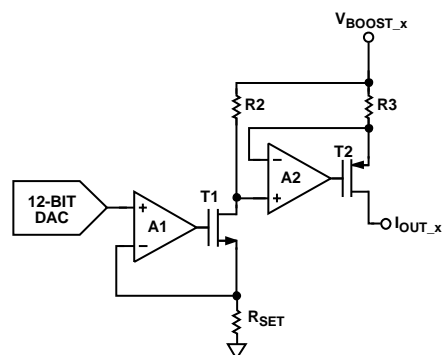

Figure 71. Voltage-to-Current Conversion Circuitry
- Converted to a current, which is then mirrored to the supply rail so that the application sees only a current source output (see Figure 71)